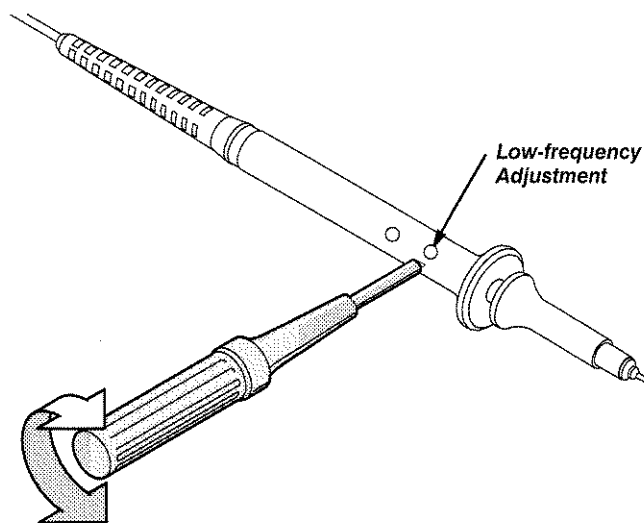

Figure 2-7: Location of Probe Head Adjustment
11. Adjust the low frequency compensation adjustment, located in the probe body, for the best possible square wave. See Figure 2-7 for the location of the low frequency adjustment.